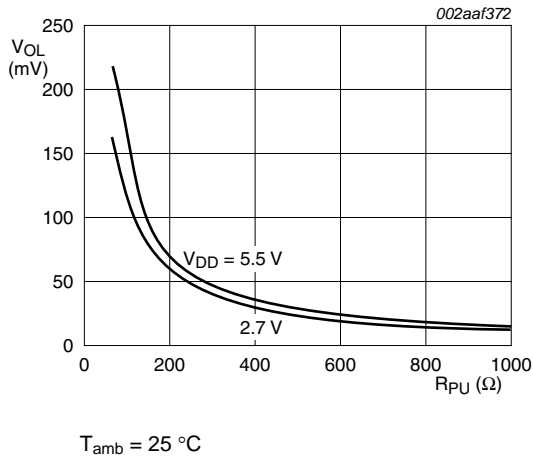
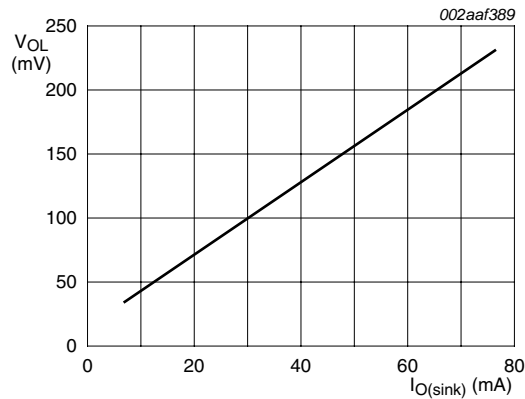

Fig 8. Typical SDA LOW-level output voltage versus pull-up resistance
Fig 10. Typical output port (P0 to P7) LOW-level output voltage versus LOW-level output sink current
- [1] Supply voltage dependent; refer to graphs (Figure 8 through Figure 10) for typical trend.